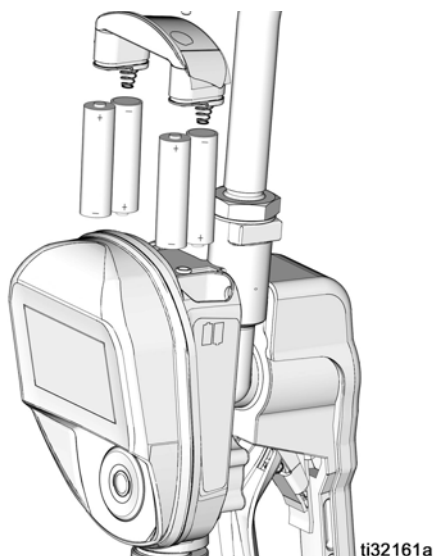

FIG. 48
- Be sure to follow the correct polarity as shown on the installation labels located on either side of the metered dispense valve when installing batteries in the battery compartment (FIG. 48).
4. Install 4 new batteries. See labels on the each side of the housing and FIG. 48 for battery orientation.